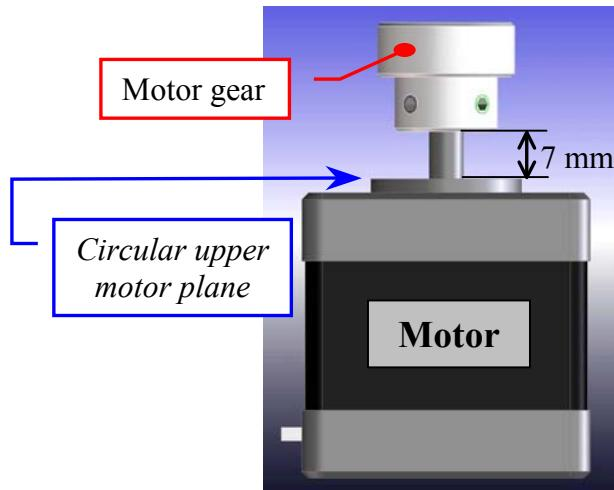

Fig. 21 – Plate Motor (scheme)
6. Insert the gear on the motor shaft, position the gear to **7.00 mm** with respect to circular upper motor plane (**Fig. 21**), then tighten the two set screws of the gear (**Fig. 19**).